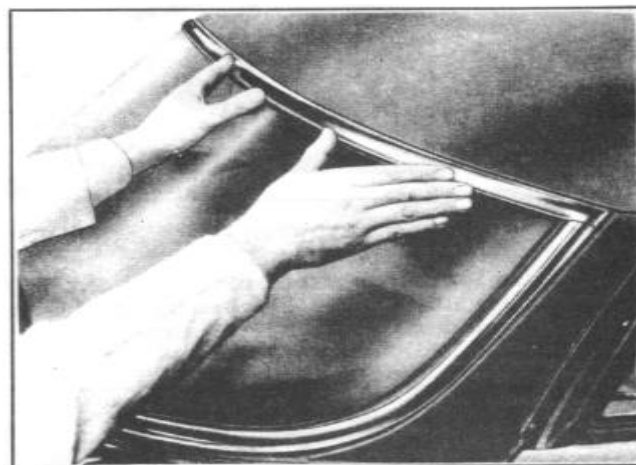

FIGURE 65
2. Install upper right and left reveal mouldings as shown in Figure 65.